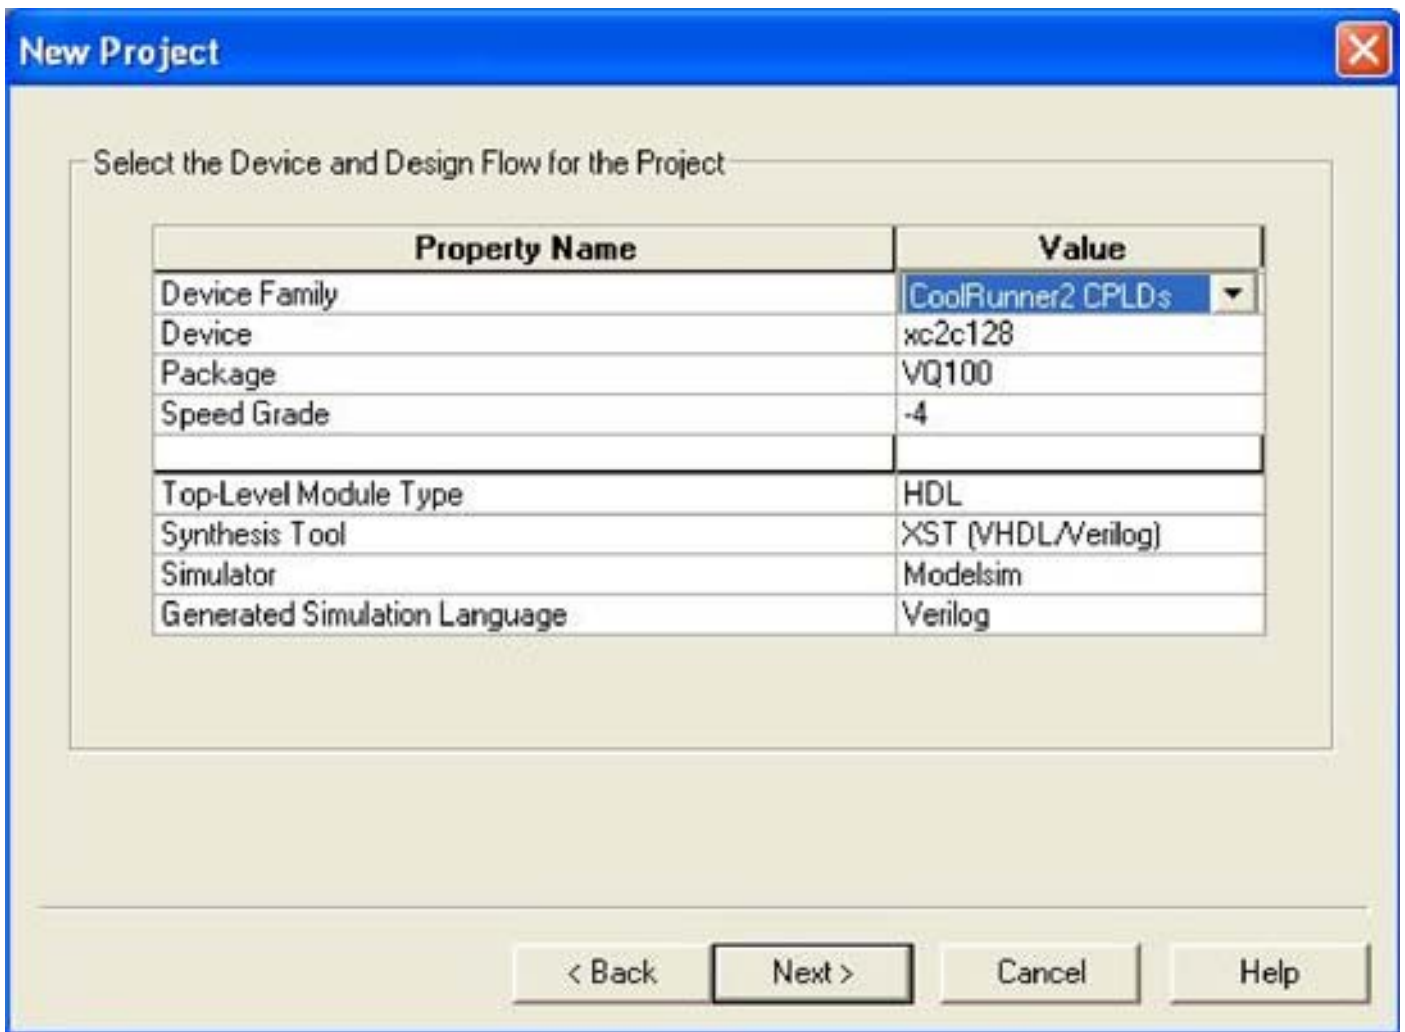

Figure 4. Device and Design Flow configuration for the new project.
3. This menu lets you select the device and package that your project will be targeting. For the Device Family, select *CoolRunner 2 CPLDs*. Next select your Device from the list provided—probably the XC2C64, XC2C128, or equivalent device. For the Package, select *VQ100*, which is the package assumed for the TINIs400 socket. See **Figure 4** for the rest of the configuration options used in this application note. Once complete, press *Next* to continue.